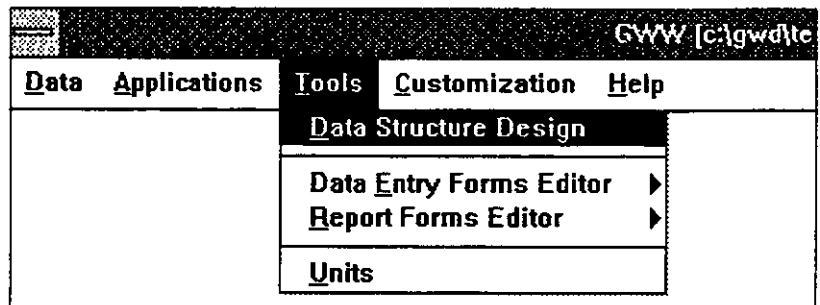

Figure 2-4
1. Select **Tools** from the menu bar. The menu as shown in Figure 2-4 opens.